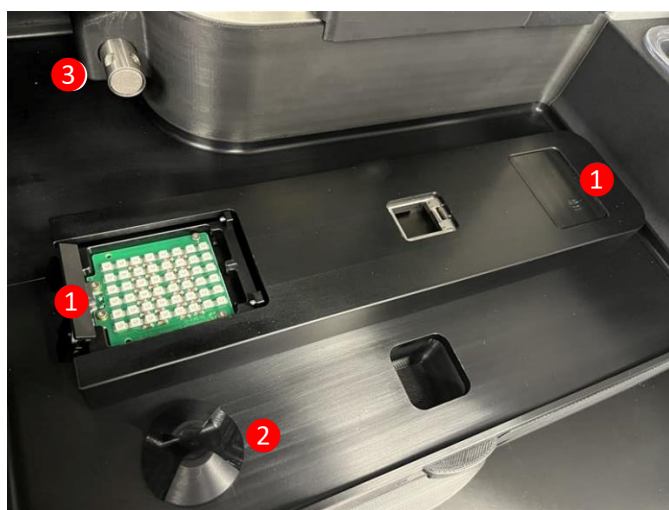

Figure 27 – Vibrator Cover Removal
- 6) Lift the vibrator cover at both ends *Figure 27* – ① to remove.
- the component (if fitted) in front of the feeder *Figure 27* – ②
- the rear of the feeder system baseplate *Figure 27* – ②. A torch is particularly useful for this.
The vibrator cover slides back over the vibration mechanism as per *Figure 27*.